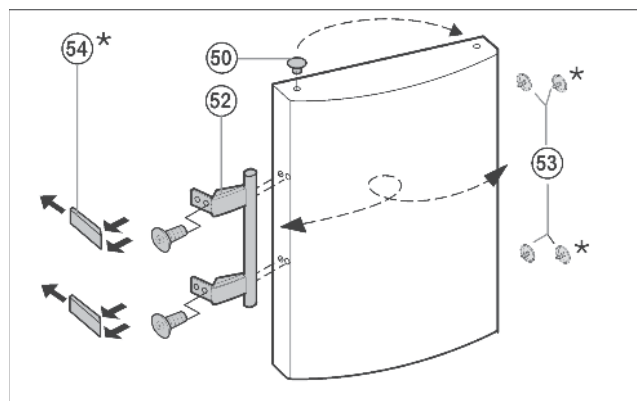

Fig. 14
- ▶ Pull plugs *Fig. 14 (50)* out of the door bearing bushes and move them to the other side.
- ▶ Detach the door handle *Fig. 14 (52)*, plug *Fig. 14 (53)* and pressure plates* *Fig. 14 (54)* and move them to the opposite side.